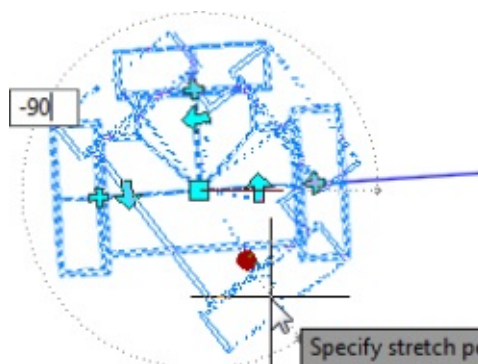

Figure 13.90 Rotate the tee to correct its position before reconnecting.
24. Select the tee and then, as shown in Figure 13.90, click the Rotation glyph and enter **-90**.